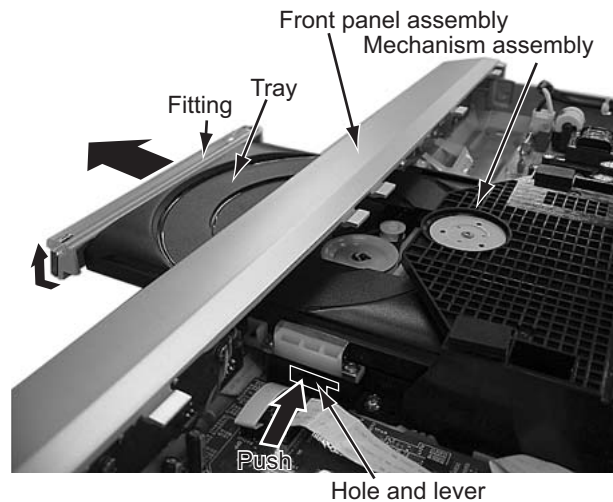
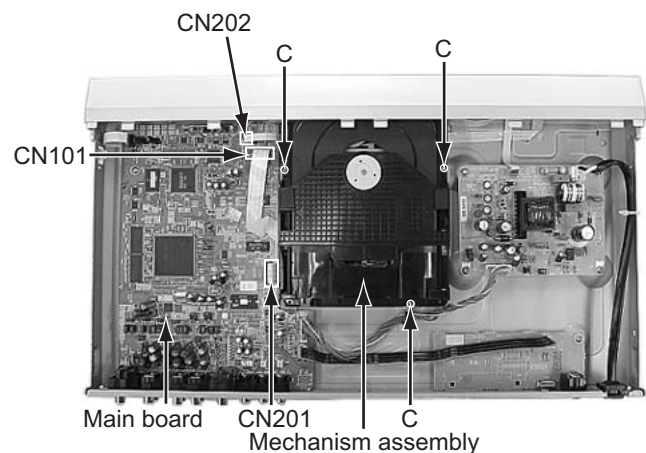
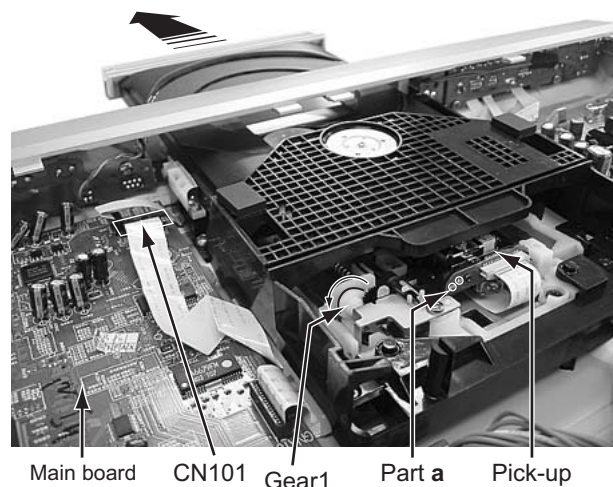

Fig.2
Fig.3
Fig.4
3.1.2 Removing the mechanism assembly (See Figure 2, Figure 3, Figure 4)